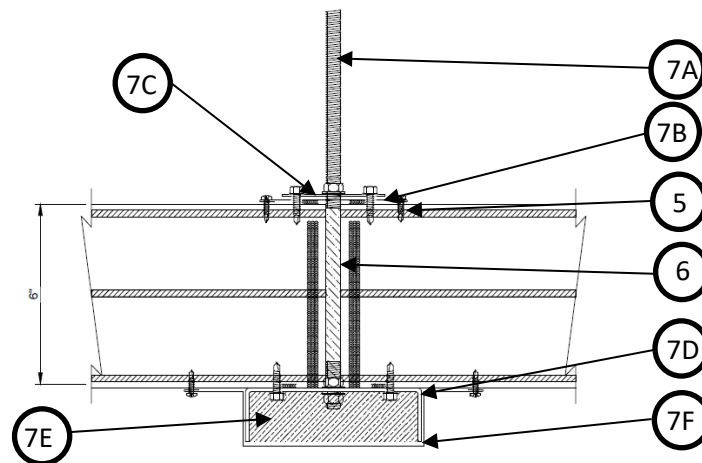
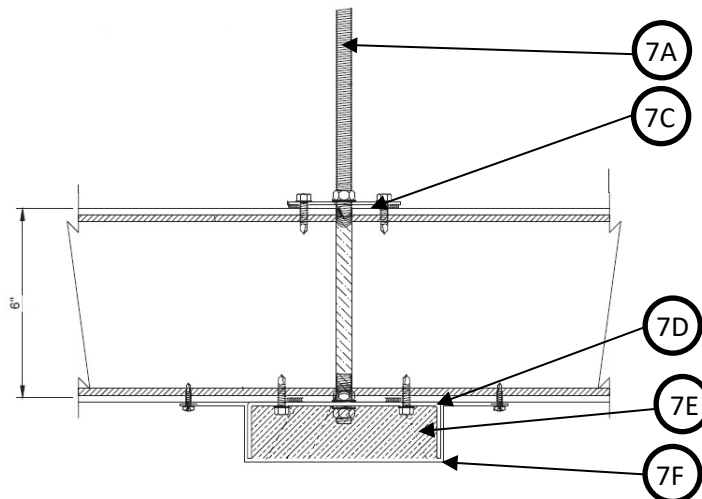
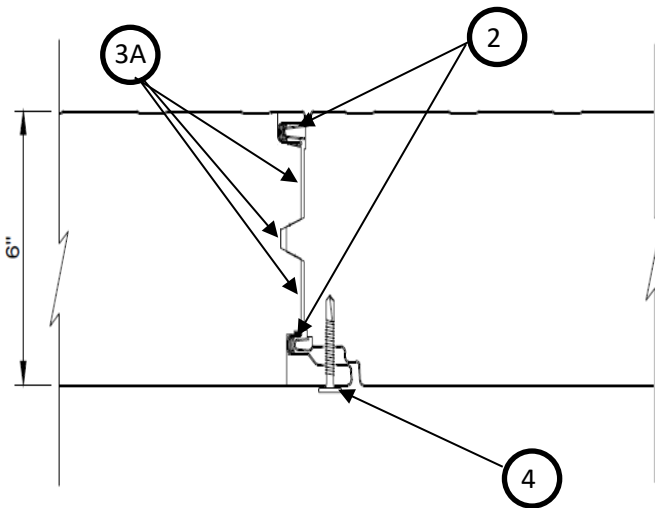

Figure 1: Butt Joint W/Hanger
Figure 2: Mid-Panel W/Hanger
Figure 3: Interlocking Panel Joint W/SAFire Intumescent
Install nominal 6 in. thick x 42 in. wide Kingspan K-ROC Panels w/min. 24/26 GA (ext/int) steel skins, horizontally using the mounting attachments (Item 7). The max. span between butt joints is 12 ft. Refer to **Figures 1 and 4** for butt joints, and **Figures 3 and 5** for interlocking joints.
- A. Option 1: Refer to **Figure 3**. Apply three 20 mm beads of Kingspan's Safire Intumescent Mastic in the interlocking joints of the mineral wool core.
- A. **THREADED ROD** – Install 3/8 in. diameter threaded rod and secure to structural member (not shown), spaced a max. of 42 in. oc. Secure threaded rod to mounting attachments using 3/8 in. nuts. The max. hole diameter for the rod installation shall be 1/8 in. greater than the rod diameter. Threaded rod shall be installed between the panel butt joint as shown in **Figure 1**. Alternatively, the rod can be installed through the middle of the panel, as shown in **Figure 2**. For installation at mid-span locations or at interlocking joints, apply 3M Fire Barrier CP 25WB+ sealant at the penetration points at the top and bottom of the panels. Maintain a max. of 5 ft. oc ceiling channel spacing.